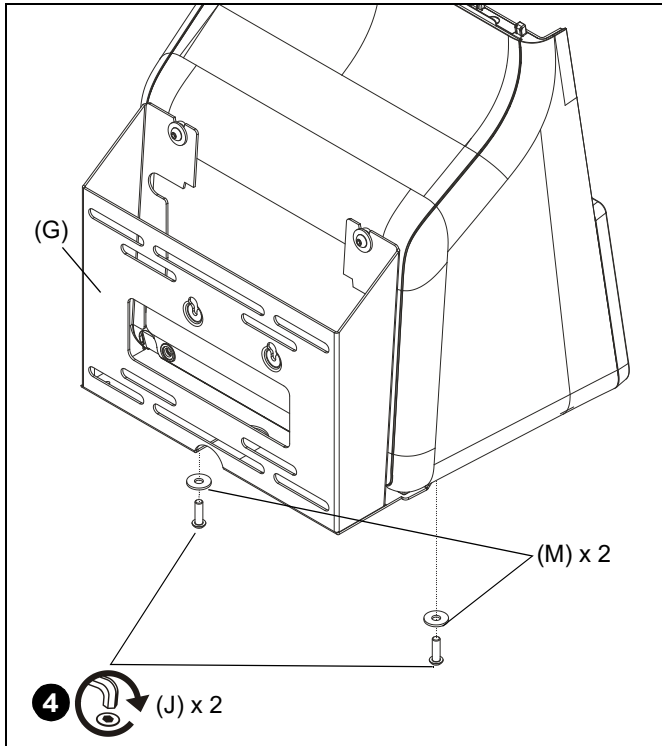

Figure 12
4. Install two M6 x 10mm button head cap screws (J) through two M6 washers (M) and into bottom holes on kiosk bracket (G). (See Figure 12)